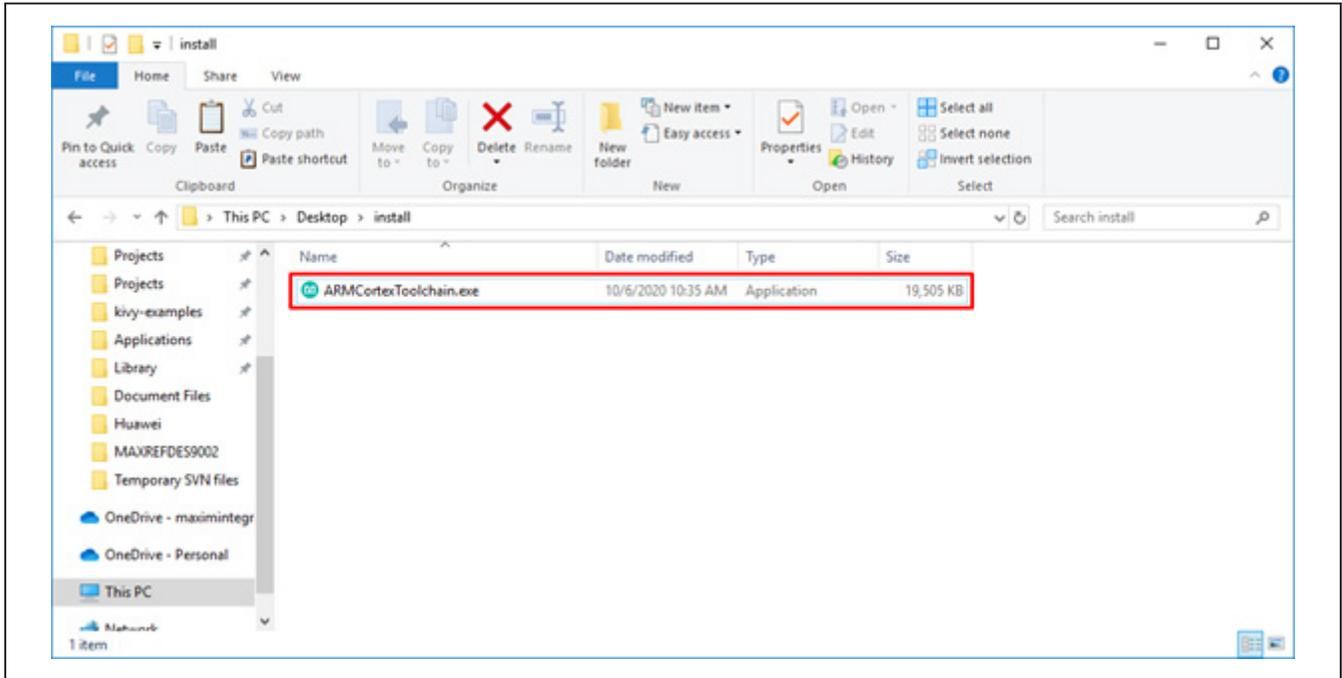

Figure 2. File viewer.
- 2) In a file viewer (Figure 2), double click **ARMCortex-Toolchain.exe** to begin the installation.